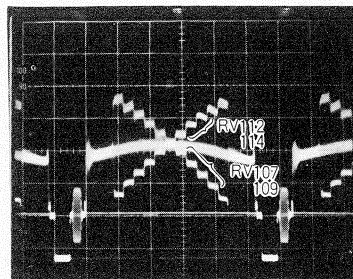

Fig. 48
4. Repeatedly turn RV107 and RV109 alternately to minimize the carrier in the 2nd ~ 6th steps from the bottom of the waveform. (Refer to Fig. 48).